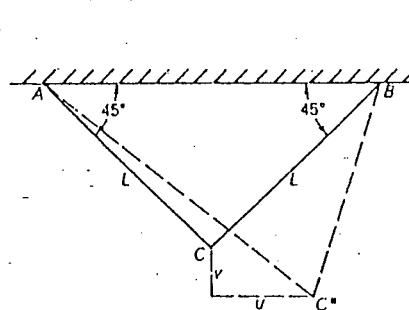

Fig. P2.16
2.16. The point C is displaced to C' as shown in Fig. P2.16. The horizontal and vertical components of this displacement are u and v . Express the average extensional strains of AC and BC in terms of u , v and L . If u and v are small, what are the approximate expressions for these average extensional strains?